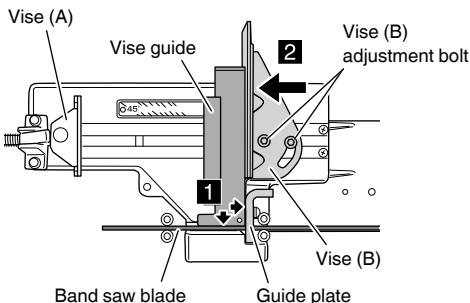

Fig. 8
<Adjustment of the perpendicularity between vise (B) and the band saw blade (Fig. 8)>
(1) Loosen the two vise (B) adjustment bolts using the 8-mm hexagonal wrench supplied as a standard accessory. Ensure that vise (A) is away from vise (B).
(2) Place the vise guide supplied as a standard accessory as shown in the figure. Move the main tool unit down to lightly press the vise guide against the side of the band saw blade and the guide plate.
(3) Lightly press the vise guide so that it does not move, and place vise (B) so that it comes in contact with the vise guide.